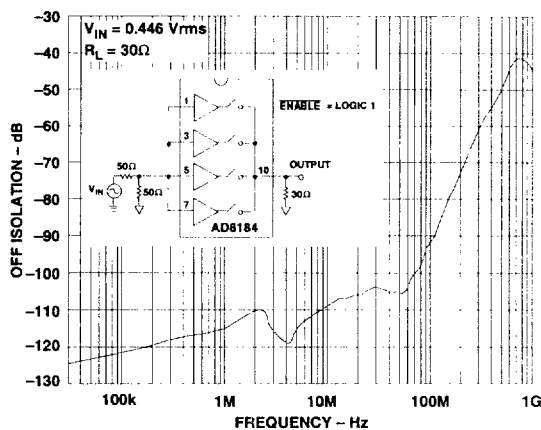

Figure 13. "OFF" Isolation vs. Frequency
- 7Multiplexer is disabled (i.e., ENABLE = logic 1) and all inputs are driven simultaneously with  $V_{IN} = 0.446$  V rms. Output is monitored at  $f = 5$  and 30 MHz.  $R_L = 30$   $\Omega$  to simulate  $R_{ON}$  of one enabled multiplexer within a system (see Figure 13). In this mode the output impedance is very high (typ 10 M $\Omega$ ), and the signal couples across the package: the load impedance determines the crosstalk.